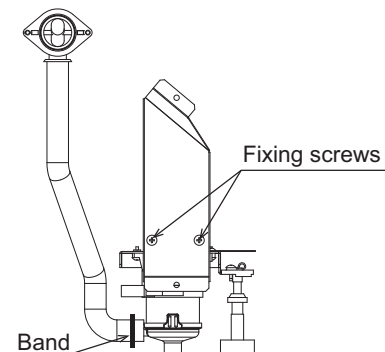

Fig.5
5. Remove the fixing screws and cut the band shown in Fig. 5, by doing so, the drain pump and the float switch can be disassembled.